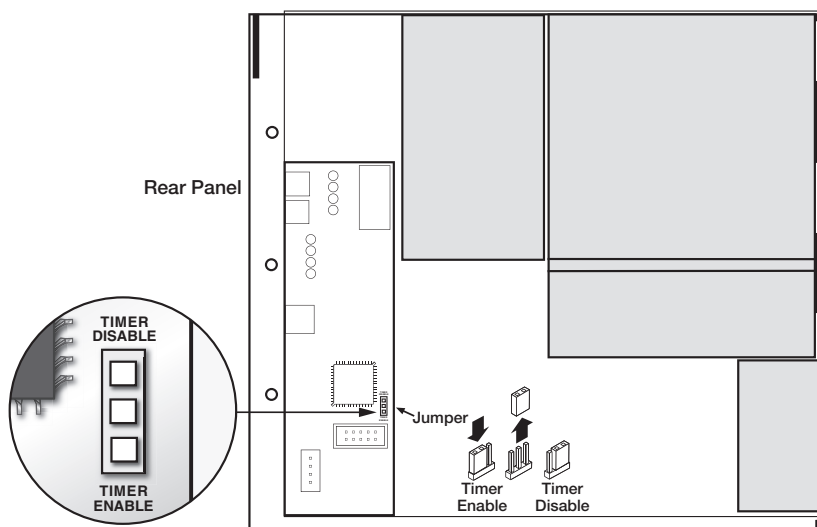

Figure 37. Jumper Pins
- Enable the power-down timer by placing the jumper on the two leftmost pins. Disable the power-down timer by placing the jumper on the two rightmost pins (see figure 37).